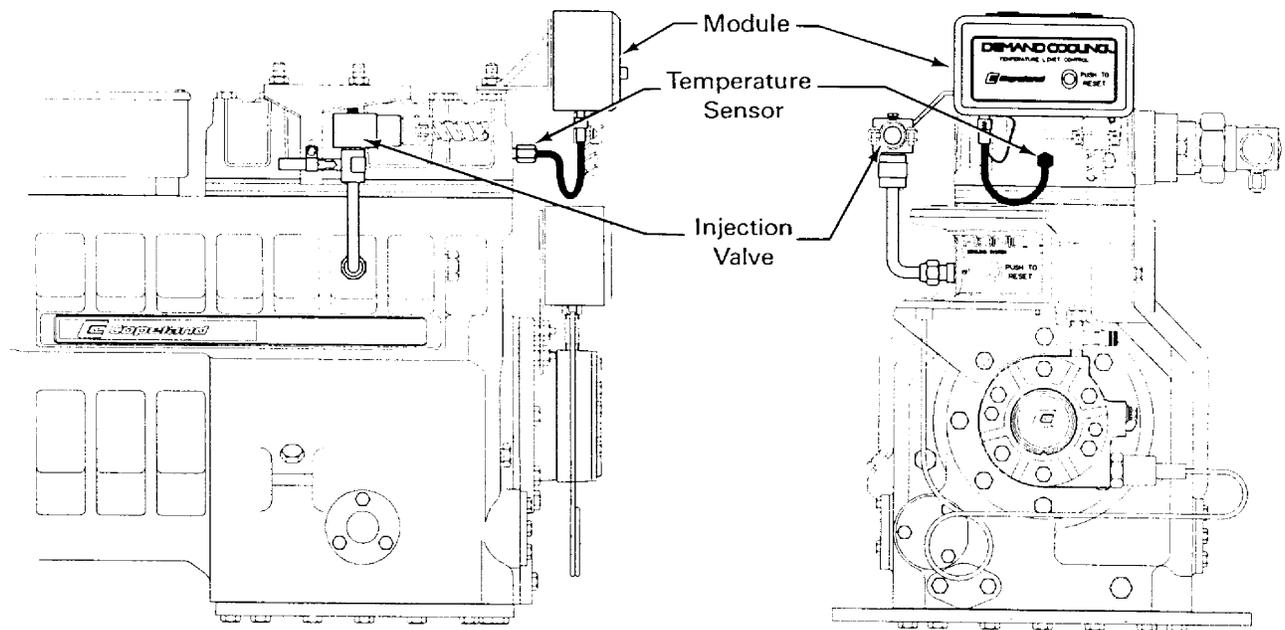

FIGURE 1 DEMAND COOLING SYSTEM COMPONENTS (REPRINTED FROM COPELAND ENGINEERING BULLETIN AE-1287)
The Copeland Demand Cooling System (*Figure 1*) uses electronics to counteract the occasionally high internal compressor discharge temperatures created by the R-22 refrigerant in low temperature applications. Demand cooling diverts refrigerant to the compressor. (*See Figure 2 on page 21-3.*) The demand cooling module uses the signal of a discharge head temperature sensor to monitor discharge gas temperature. If a critical temperature is reached, the module energizes an injection valve which meters a controlled amount of saturated refrigerant into the compressor suction cavity to cool the suction gas. If the discharge temperature rises above a preset maximum level, the module will turn the compressor off and activate its alarm contact. This shut down will require a manual reset. *See Control Setting chart at the bottom of this page.*
**If an economizer (Figure 1) is not used, the intermediate pressure may be up to 30 psi lower than the AIP.**
Two-stage systems have the inherent benefit of being able to utilize interstage subcooling and desuperheating through the use of a heat exchanger. Figure 1 is a diagram of an economizer cycle. Liquid at the saturated condensing temperature (SCT) passes through a heat exchanger on the way to the evaporator. The liquid is subcooled.